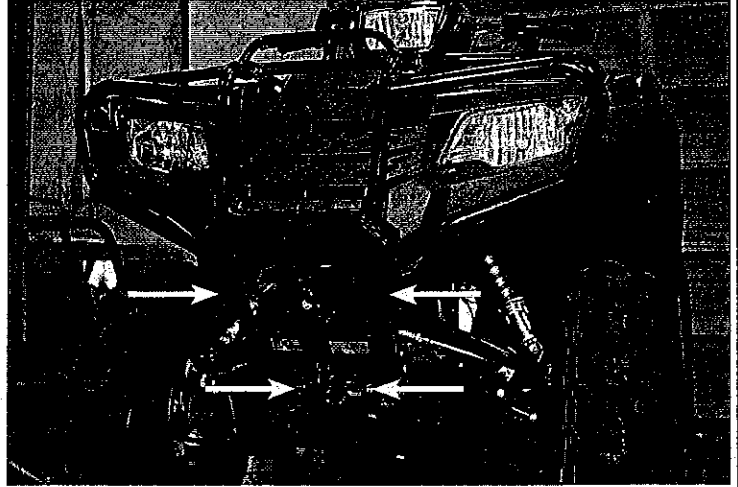

Figure 4
4. Remove the six M8 bolts securing brush guard to frame. See Figure 4.